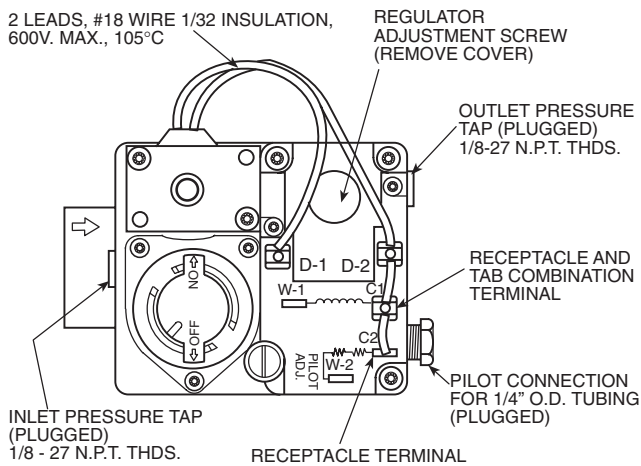

Fig. 36 — Gas Valve (Part Number EF33CB271)
6. Remove screw cap covering regulator adjustment screw (See Fig. 36).